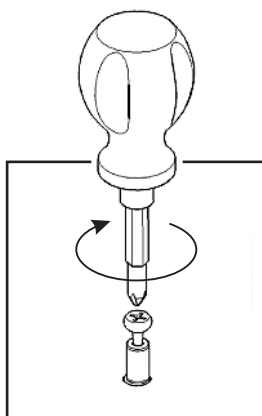

Figure 1
Insert Cam Lock Screws into pre-drilled holes of Top (A), Front Stretcher (C), Back Stretcher (D), Side Frames (G) and (H). (See Figure 1)